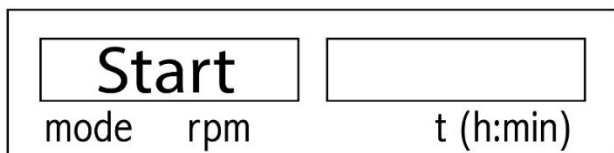
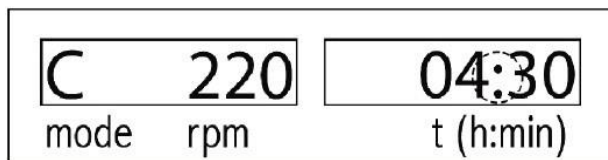

Figure 23: Operating Mode C – moment of rotating operation
Figure 24: Operating Mode C – device is in rotating operation
- In operation mode C no modify can be applied. now by pushing the left rotary knob the device will start working in operating mode B (figure 24) at the saved speed and time settings after displaying "Start" word (figure 23) on the display.